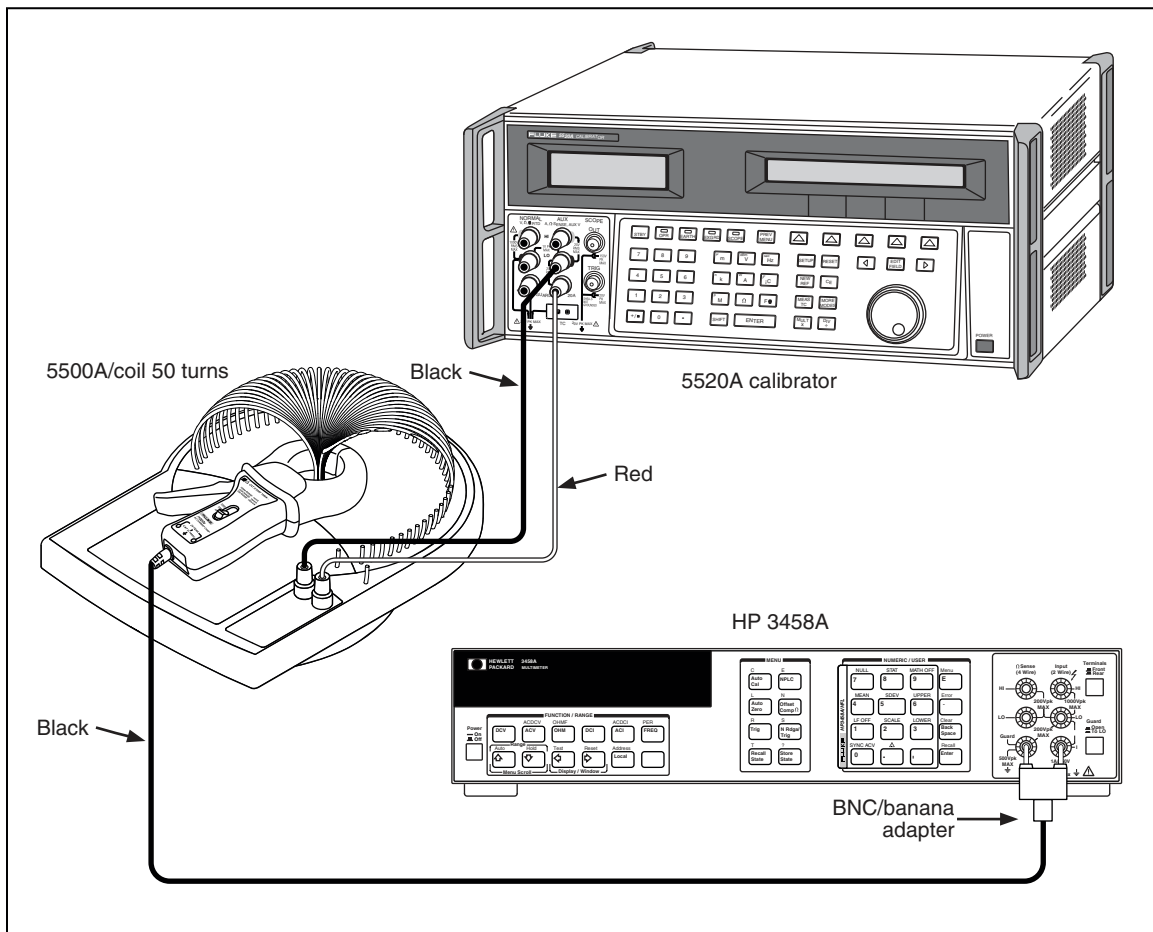

Figure 5. Calibration and Verification Setup
1. Connect the equipment. See Figure 5.